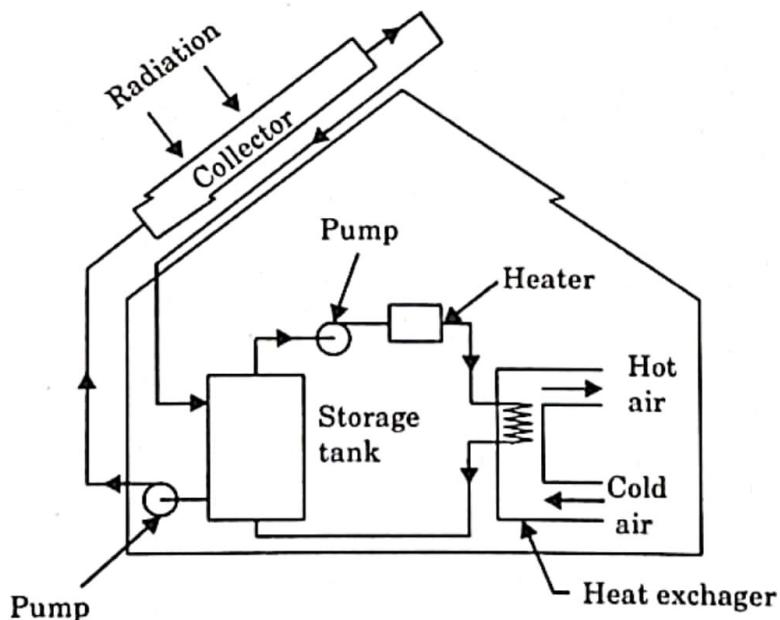

Fig. 2.22.2. Schematic of active space heating by water collector.
4. In other arrangement the water heating arrangement is provided through the collectors placed at top of the roof as shown in Fig. 2.22.2.